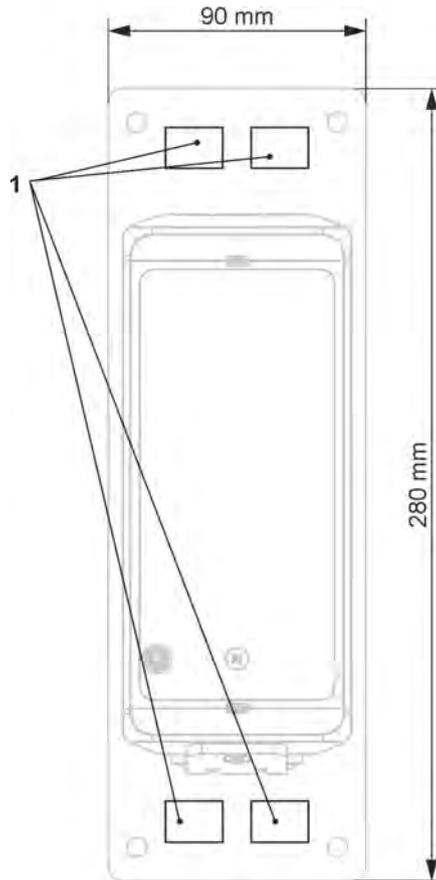

Fig. 23-2 Fastening on a mast using clamps
- Enclosure rear panel mounted on a mounting plate (3 mm thick); mounting plate fixed to a mast (see Fig. 23-2) with clamps (openings see Fig. 23-2 Pos. 1)